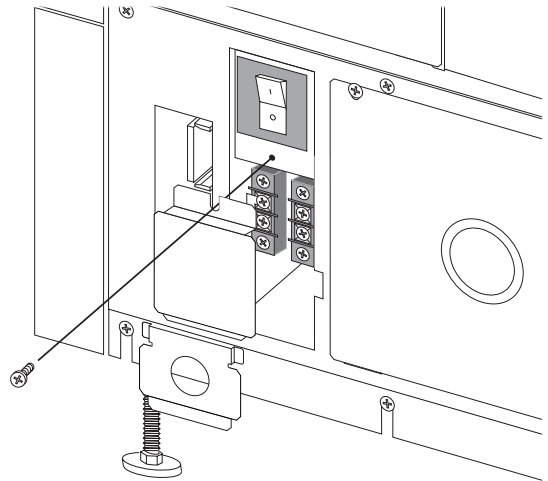

Fig 4-13 Removal of REPO Wiring Panels
1. Refer to figure 4-13. Remove the screw holding the two piece access panel at the rear of the Power Array. Remove the panel. Set the screw and the panel aside temporarily.